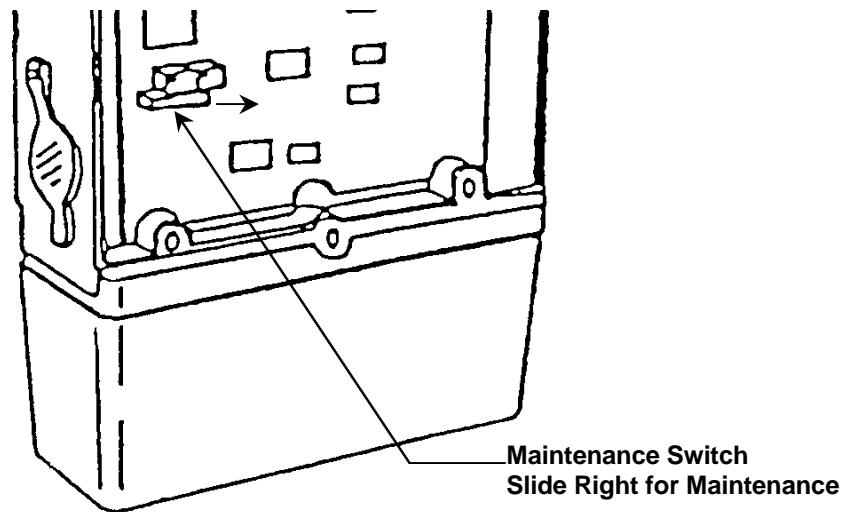

Figure 3-10: Position of Maintenance Switch
- Slide the maintenance switch to the left; refer to Figure 3-10